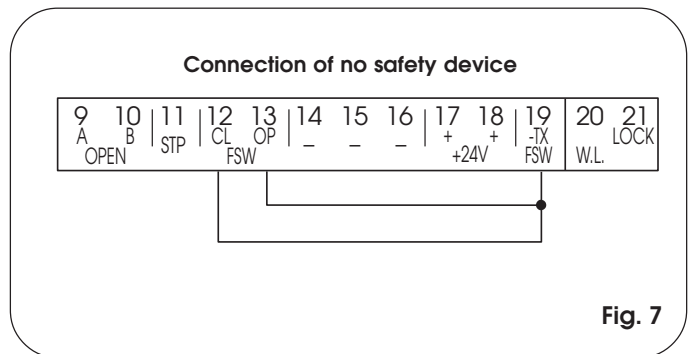

Fig. 7
**NB.:** *If no closing safety devices are connected, jumper connect terminals CL and -TX FSW (fig. 7).*
**NB.:** *If no opening safety devices are connected, jumper connect inputs OP and -TX FSW (fig. 7).*